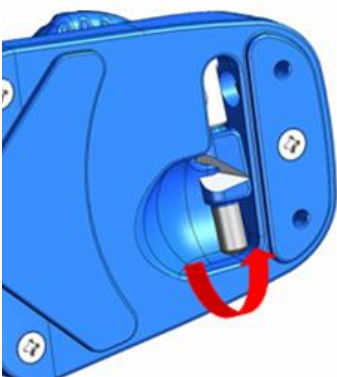
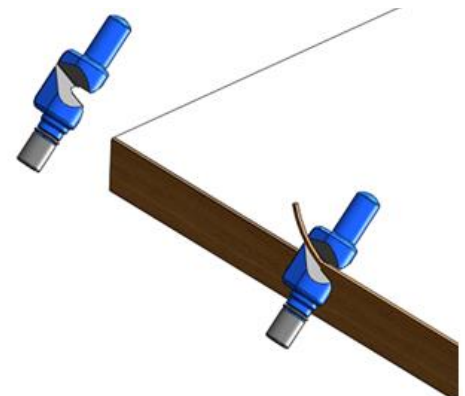

Fig. 11
Fig. 13
- When trimming thin spare edge band, remove the router bit shown in Fig 11&12., trim the edge by using two hands to hold up to each side of the router bit (Fig 13). Wear safety gloves. Warning about cut injuries!